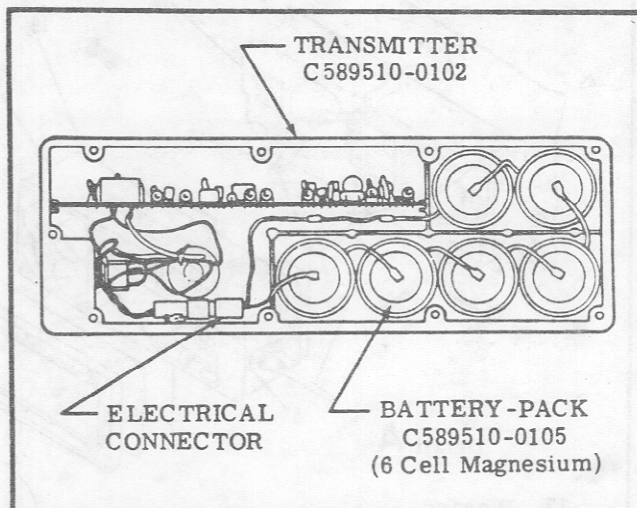
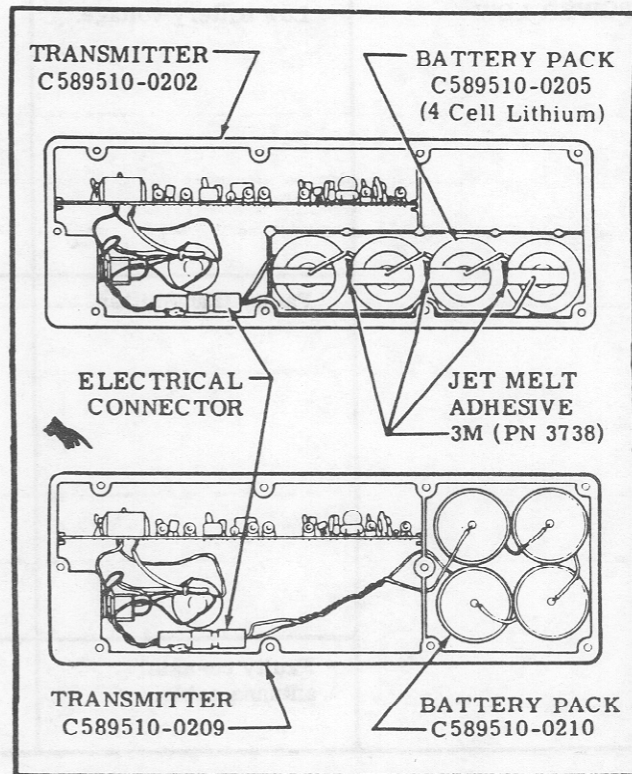

Figure 16-14. Magnesium 6 Cell Battery-Pack Installation
Figure 16-15. Lithium 4 Cell Battery Pack Installations
16-89. DESCRIPTION. The ELT is a self-contained, solid state unit, having its own power supply, with an externally mounted antenna. The C589510-0209 transmitter is designed to transmit simultaneously on dual emergency frequencies of 121.5 and 243.0 Megahertz. The C589510-0211 transmitter used for Canadian registry, operates on 121.5 only. The unit is mounted in the tailcone, aft of the baggage curtain on the right hand side. The transmitters are designed to provide a broadcast tone that is audio modulated in a swept manner over the range of 1600 to 300 Hz in a distinct, easily recognizable distress signal for reception by search and rescue personnel and others monitoring the emergency frequencies. Power is supplied to the transmitter by a battery pack which has the service life of the batteries placarded on the batteries and also on the outside end of the transmitter. ELT's thru early 1974 models, were equipped with a battery-pack containing six magnesium "D" size dry cell batteries wired in series. (See figure 16-14) Mid 1974 thru early 1975, ELT's are equipped with a battery-pack containing four "in-line" lithium "D" size batteries wired in series. Early 1975 and on ELT's are equipped with a battery-pack containing four lithium "D" size batteries which are stacked in two's (See figure 16-15). The ELT exhibits line of sight transmission characteristics which correspond approximately to 100 miles at a search altitude of 10,000 feet. When battery inspection and replacement schedules are adhered to, the transmitter will broadcast an emergency signal at rated power (75 MW-minimum), for a continuous period of time as listed in the following table.
16-93. REMOVAL AND INSTALLATION OF MAGNESIUM SIX (6) CELL BATTERY-PACK. (Refer to figure 16-14.)
16-94. REMOVAL AND INSTALLATION OF LITHIUM FOUR (4) CELL BATTERY-PACK. (Refer to figure 16-15.)
- Place new battery-pack in the transmitter with four batteries as shown in the case in figure 16-15.
- Connect the electrical connector as shown in figure 16-15.